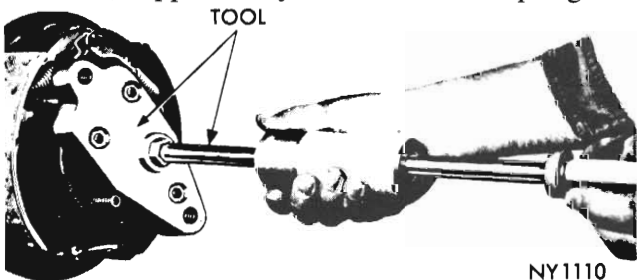

Fig. 1 - Removing axle shaft (Tool E3C20C)
(3) Withdraw the axle shaft carefully from housing (using Tool E3C20C or slide hammer Fig. 1 to loosen bearing where necessary) *taking care to prevent oil spillage* on to brake components.